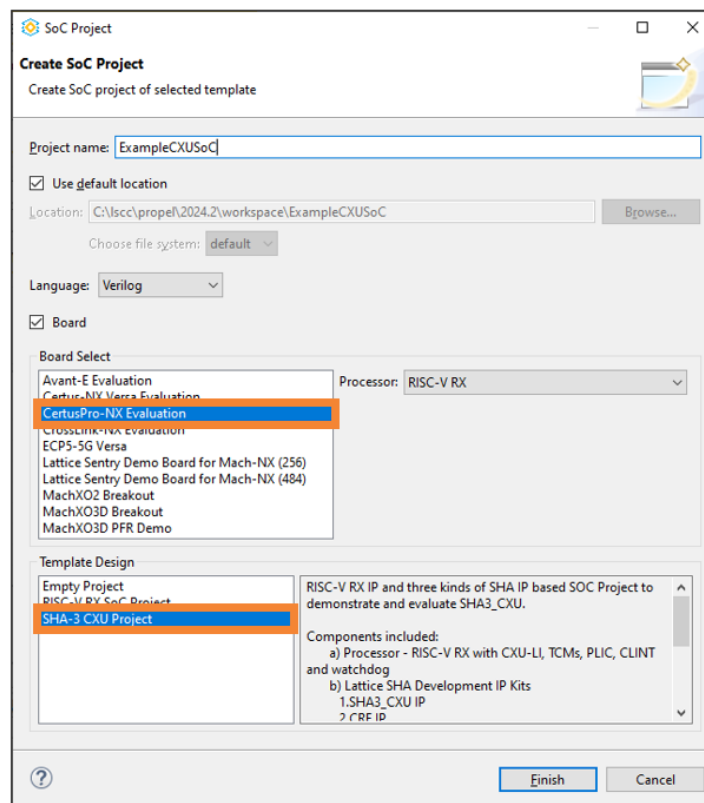

Figure 7.1. Create SoC Project Wizard
1. Create a SHA-3 CXU SoC project with the CertusPro-NX Evaluation Board (Figure 7.1). Click **Finish**.